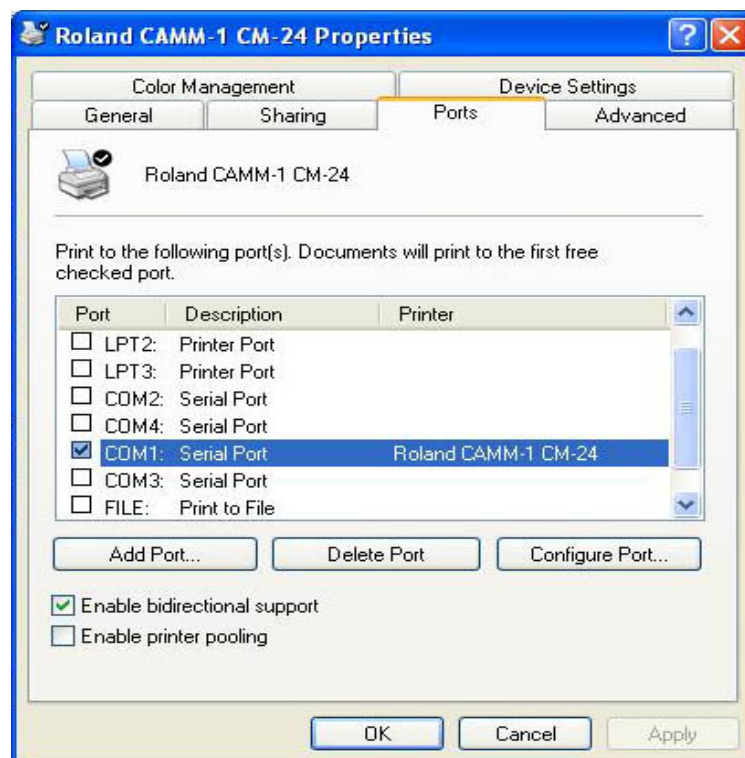

Figure 5
**Step 4:** After the driver is well installed. Click the right button on the driver icon and select Properties, a dialogue will pop up (shown as Figure 5).